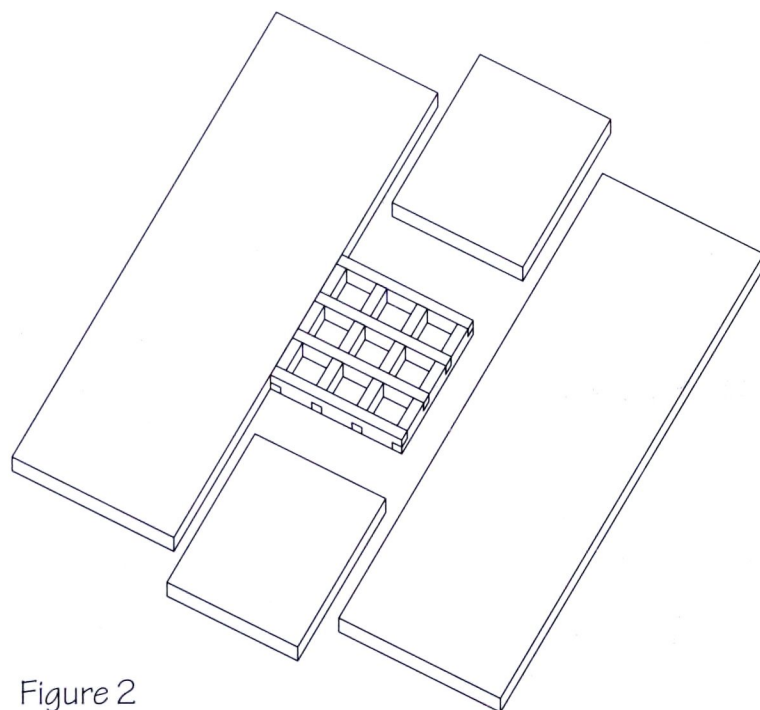

Figure 2
1. Veneer a piece of $\frac{3}{4}$ " MDF larger than 14" square with birdseye maple veneer. (See Simple Veneering on page 18 for help.) Trim the veneered MDF to 14" square for the top panel (B) by cutting two adjacent sides absolutely square. Then use the rip fence set at 14" from the blade to cut the other two sides.
2. Find some scrap $\frac{3}{4}$ " MDF or plywood to make a jig to cut the hole for the grid in the top panel. Use the grid to set your rip fence to cut a strip of MDF about 26" long and the exact width of the grid. From that strip cut two 10" pieces and two pieces 3" or longer. Edge glue these pieces together around, but not to, the grid. Figure 2 shows the arrangement of the jig pieces and photo 3 shows the completed jig. Remove